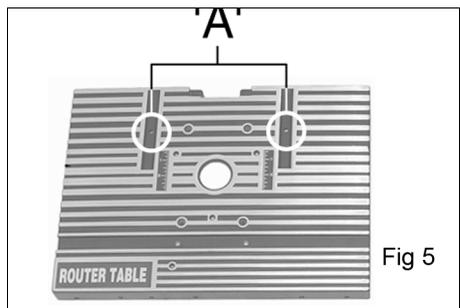

Fig 5
9. Attach the fence assy (Item 4), using the hex head bolt, washer and knob supplied. Insert the bolts from the underside of the table through the holes marked 'A' (Fig. 5). Place the fence on the bolt and secure in position with washer and locking knob.